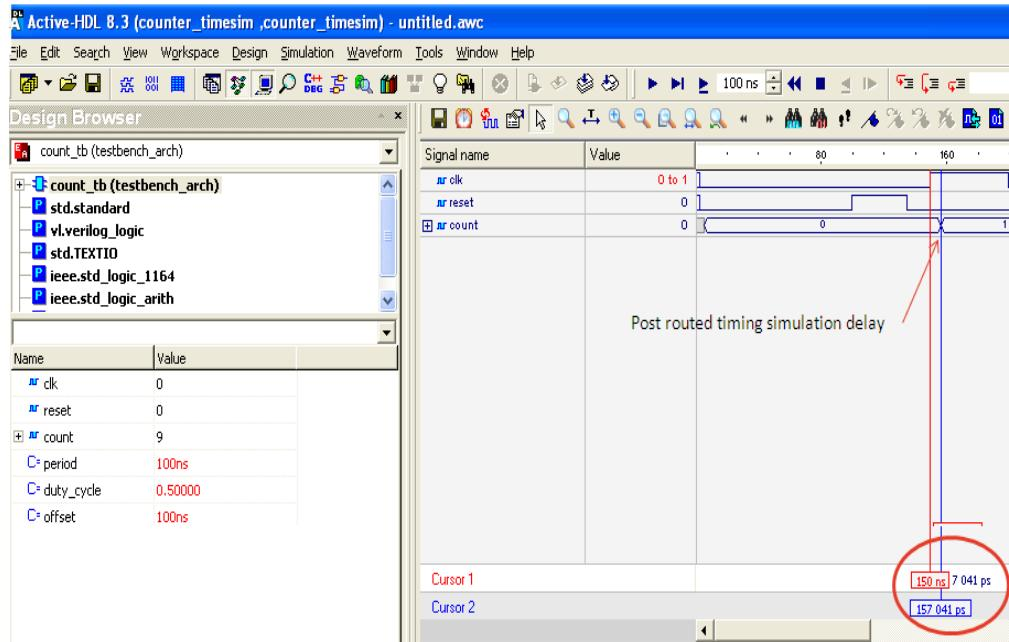

Figure 10-26: Timing Simulation Waveform
12. Type the command “run 1000ns” in the console and press enter. The 1- μ s simulation waveform will show up in the waveform window. The counter output timing delays with respect to clock positive edge is shown in Figure 10-26.